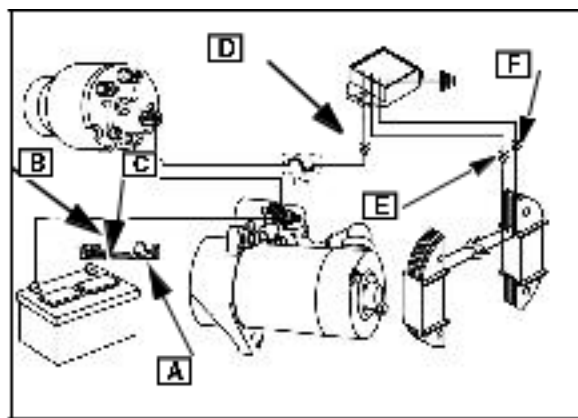

Fig. 19
Place DC Shunt #19468 on negative battery post. Install negative ([A] Fig. 19) cable on DC shunt battery terminal.
Connect multimeter test leads to DC shunt terminals, red to RED (B) and BLACK to BLACK ([C] Fig. 19).
Disconnect RED wire ([D] Fig. 19) from regulator/rectifier.
Disconnect wires at (E) and ([F] Fig. 19).